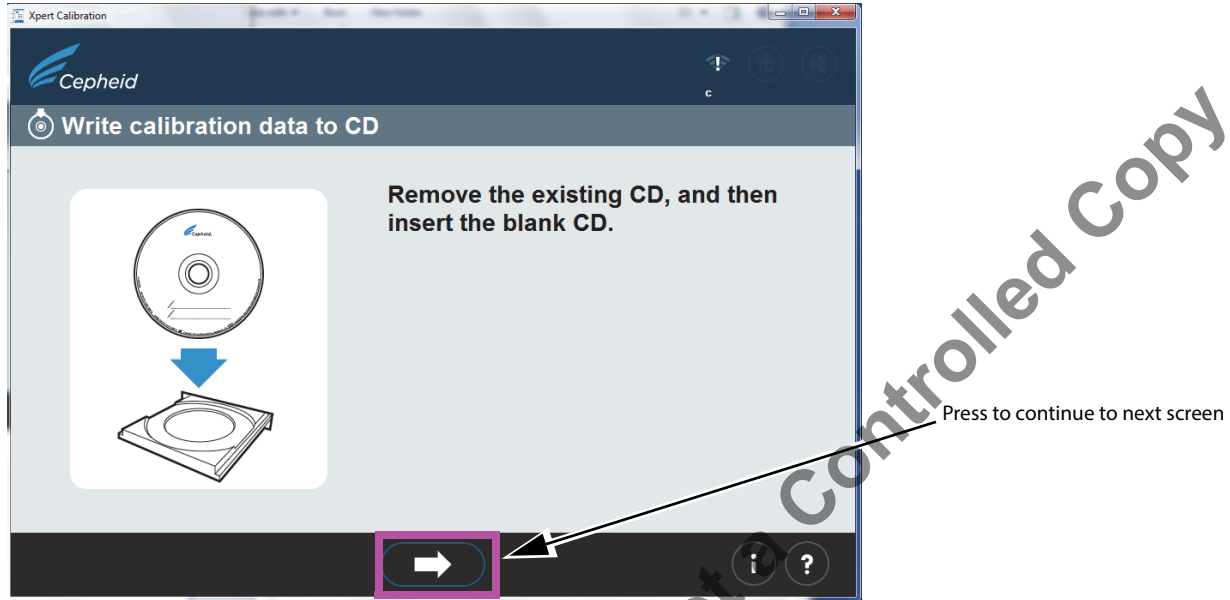

Figure 30. Write calibration data to CD screen - Step 1
- c. When the Write calibration data to CD screen appears (Figure 30), you will be prompted to press the Eject button to remove the existing Xpert Calibration Software CD 1 so you can insert the blank Data CD 2.